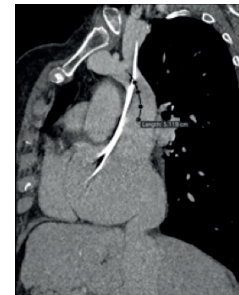

Figure 5: Trace length at center of vein
3. Use the software to measure the distance between different planes of measurement. If the SVC presents angulation or tortuosity, use the open polygon tool to trace the length at the center of vein. The lengths between confluence and point of SVC at middle of pulmonary artery and between confluence and SVC-RA junction are fundamental to implantation planning (Figure 5).